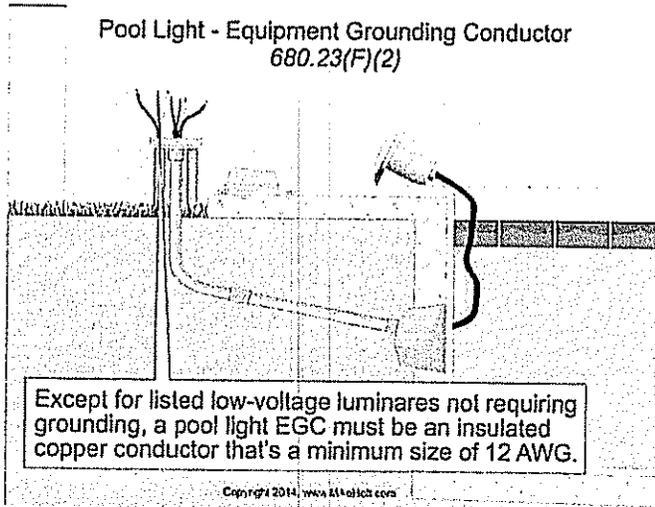

Figure 680-33
**(2) Equipment Grounding Conductor.** For other than listed low-voltage luminaires not requiring grounding, branch-circuit conductors for an underwater luminaire must contain an insulated copper equipment grounding conductor sized in accordance with Table 250.122, based on the rating of the overcurrent device, but not smaller than 12 AWG. Figure 680-33